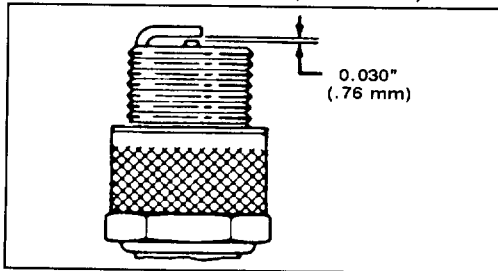

Figure 12
3. Set air gap at 0.030" (0.76 mm) (Fig. 12). Install correctly gapped spark plug and gasket seal. Tighten plug firmly to 15 ft-lb (20.4 N-m).